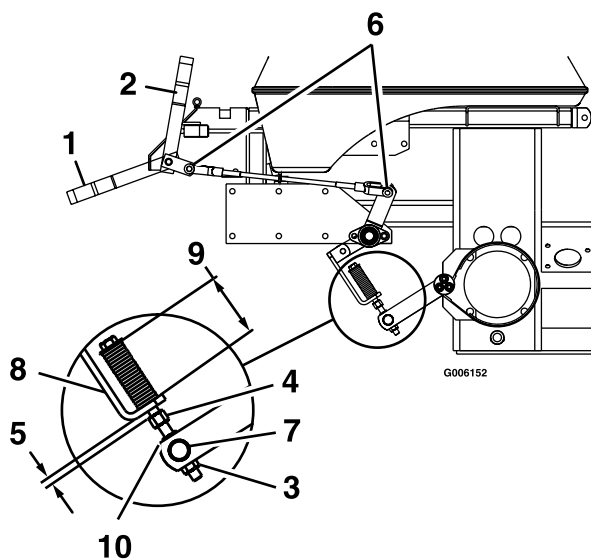

Figure 21
2. Measure the length of the spring. Measurement should be 2 13/16 inches (7.1 cm) between washers. (Figure 21).